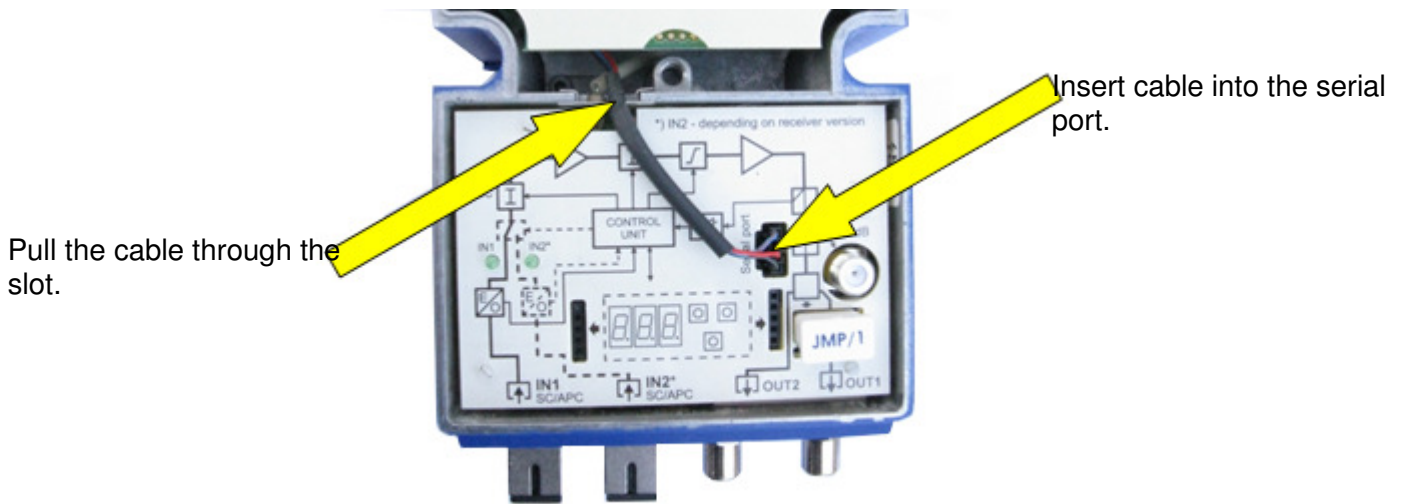

Fig. 8.9. Replacing the M-729 remote monitoring module - step 7.
- Fig. 8.9. Replacing the M-729 remote monitoring module - step 7.